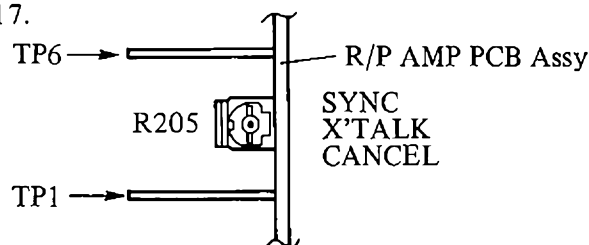

Fig. 4.17
- 1) Rotate R205 (SYNC CROSSTALK CANCELLER POT) at the center position for all 24/16 tracks as shown in Fig. 4.17.